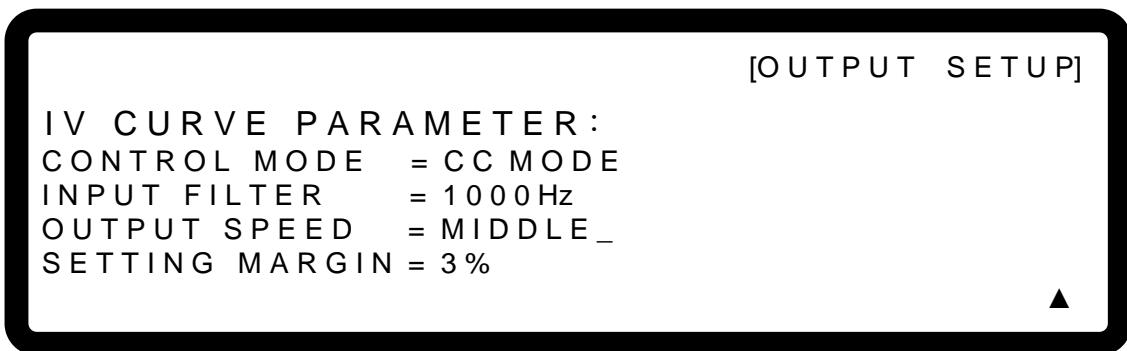

Figure 3-30
1. Use the “” keys to move the cursor to the column to be set as shown in Figure 3-30.